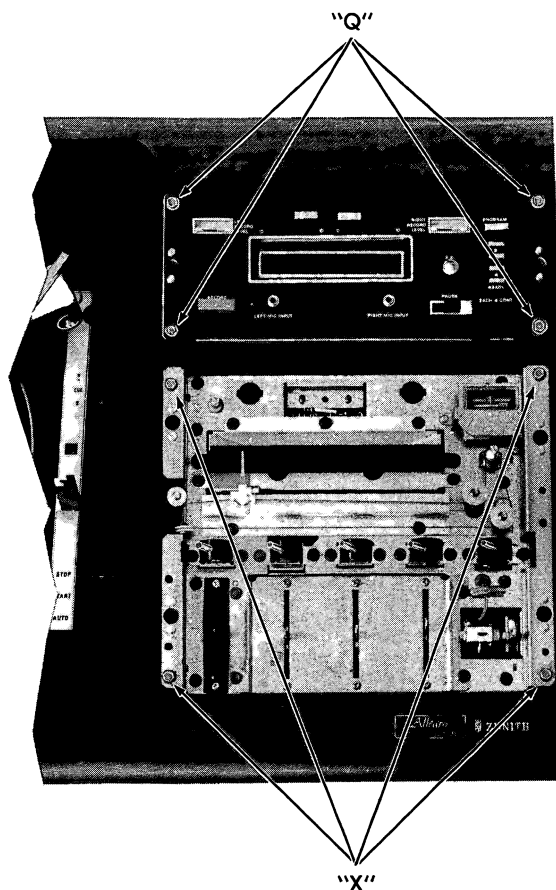

FIGURE 4 – MODELS H596W AND HR596W
7. Remove four (4) screws holding tuner chassis to front panel ("X" in Figure 4).